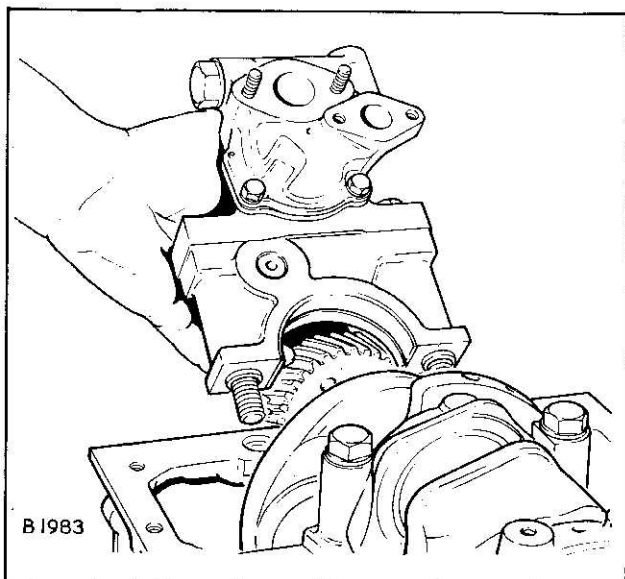

Fig. 2
2. No 1 main bearing cap together with oil pump, Fig. 2.